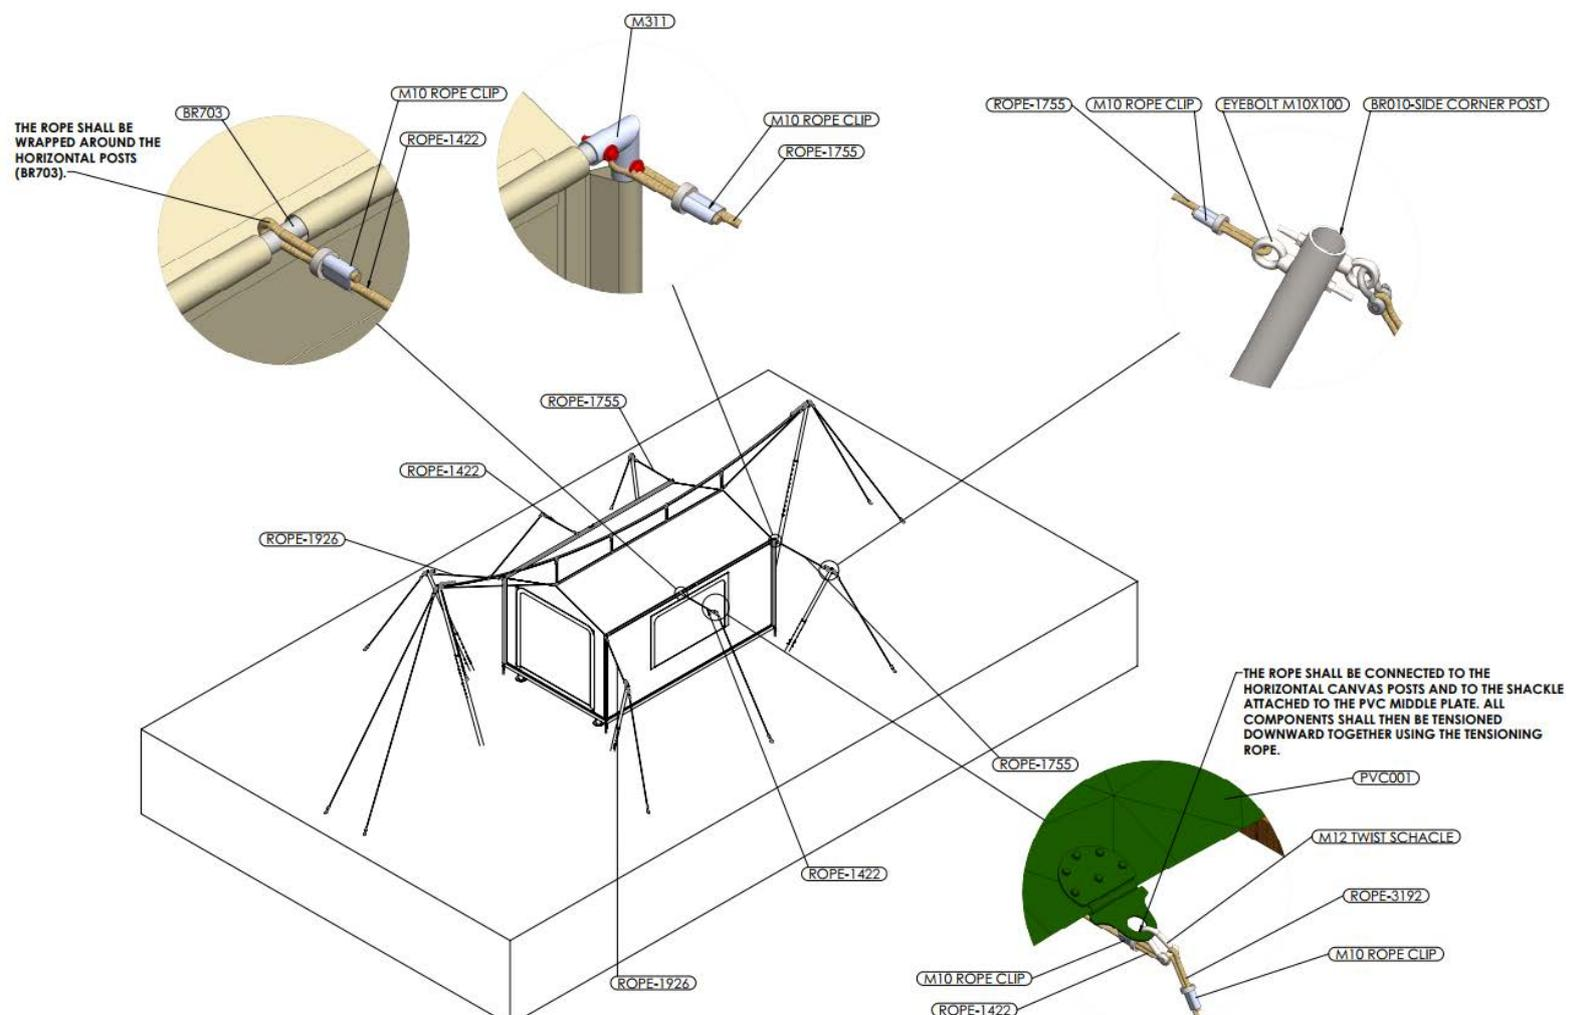

Figure 15: Canvas Post Tensioning
1. Connect the rope to the designated connection points on each post as detailed in the Figure 15.